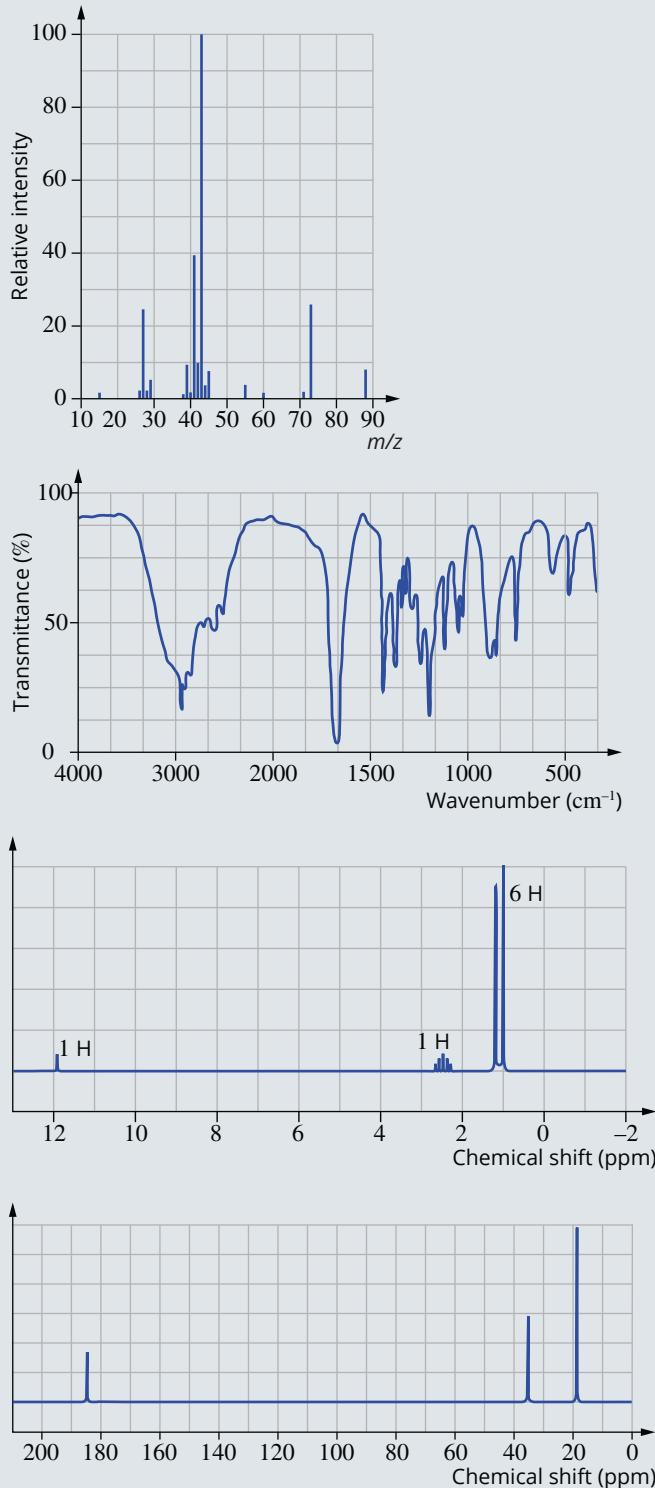

FIGURE 12.5.5 Various spectra for a compound of empirical formula C_2H_4O .
- 14** A combination of different instrumental techniques was used to analyse a compound that had an empirical formula of C_2H_4O . The mass, IR, proton NMR and carbon NMR spectra of this compound are provided in Figure 12.5.5. Details of the proton NMR spectrum are given in Table 12.5.1.